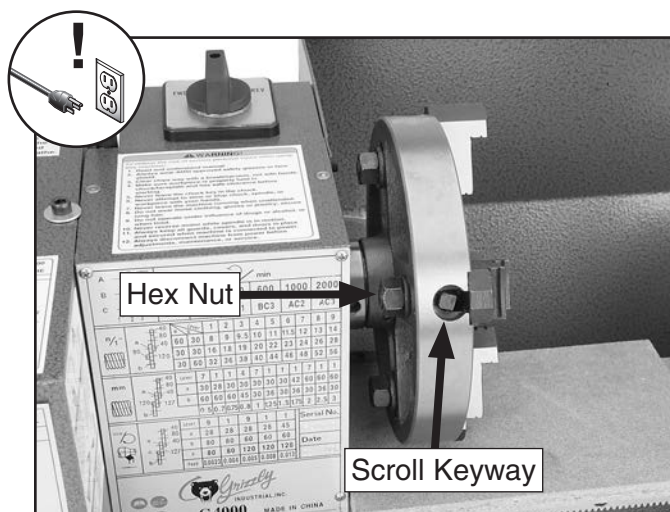

Figure 21. 4-jaw chuck components.
- Loosen the hex nut on the back of the chuck for each jaw (see **Figure 21**).